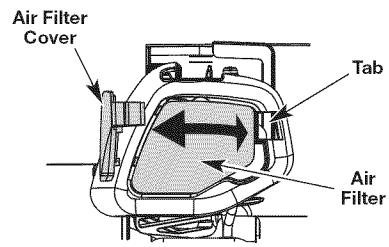

Fig. 24
1. Open the air filter cover by pressing the lock tab in and pulling out on the air filter cover (Fig. 24).
2. Remove the air filter (Fig. 24).
6. Replace the air filter into the base plate (Fig. 24).
7. Reinstall the air filter cover. Position the two small tabs on the air filter cover into the two slots in the base plate and press the air filter cover down, making sure to align the lock tab with the lock tab slot, until it snaps into place (Fig. 24).